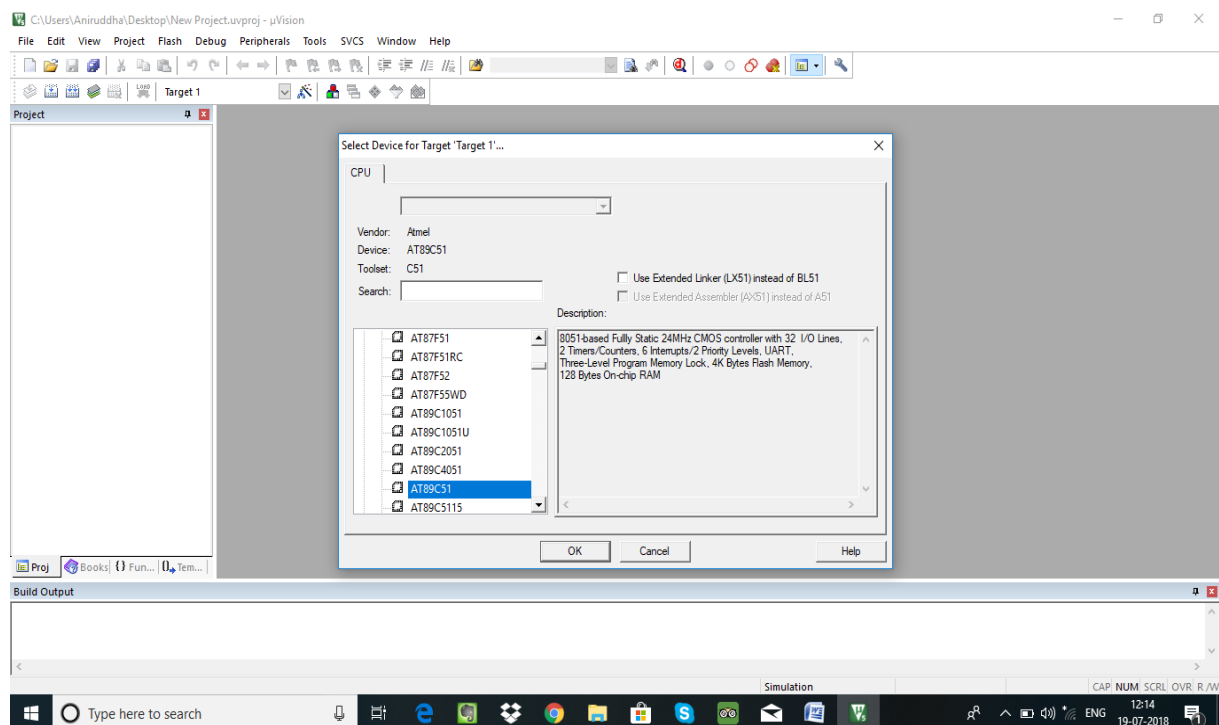

Figure. 6
5. Double click on ATMEL or INTEL, list of supported microcontrollers gets displayed. Select 80C51AH from INTEL or AT 89C51 (or as per the target board) for ATMEL then click ok. Fig. 6